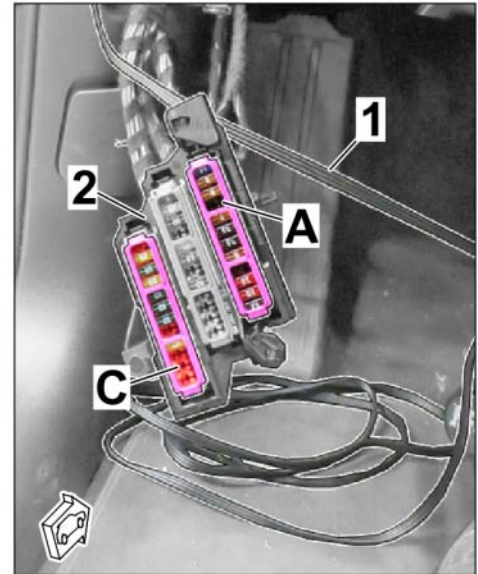

Figure 14 (LHD vehicle)
- Roof console → under headliner along windshield frame → left A-pillar (top) → along A-pillar → fuse carrier on dashboard (left ⇒ *Figure 14 (LHD vehicle)*) → BK 0.5² line → ground pin (LHD: MB21)